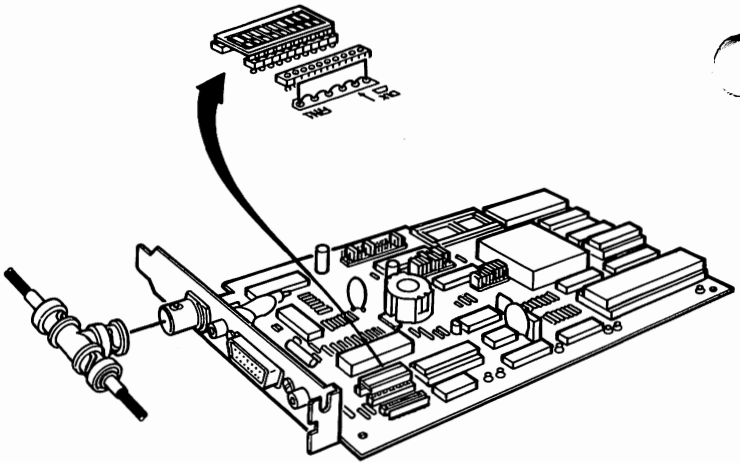
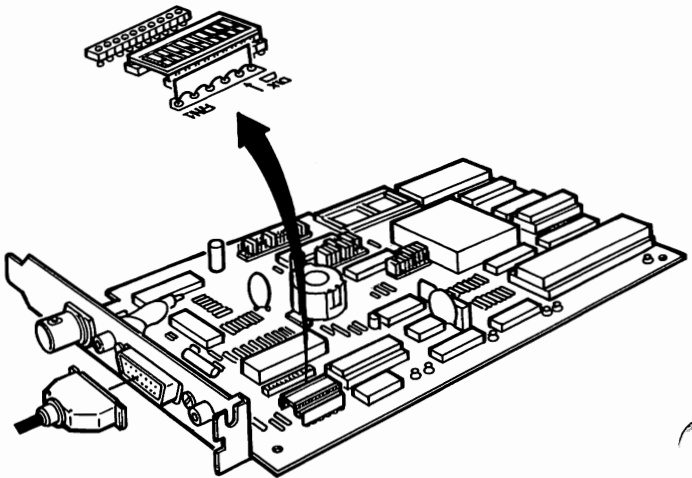

Figure 2-3. Position of jumper block when connecting a BNC T-adaptor
Figure 2-4. Position of jumper block when connecting a D-connector
3. Look at Fig. 2-3 and Fig. 2-4. Notice that the jumper block mentioned above should be positioned over connectors 1 and 2 if you are connecting a BNC T-adapter to your board, and over connectors 2 and 3 if you are connecting a D-connector to your board.